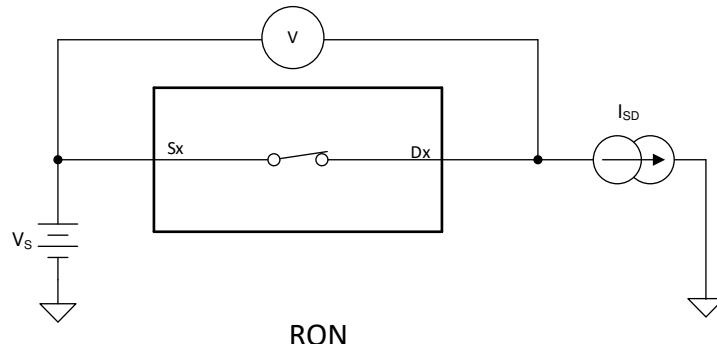

图 6-1. On-Resistance
The on-resistance of a device is the ohmic resistance between the source (Sx) and drain (Dx) pins of the device. The on-resistance varies with input voltage and supply voltage. The symbol  $R_{ON}$  is used to denote on-resistance. 图 6-1 shows the measurement setup used to measure  $R_{ON}$ . Voltage (V) and current ( $I_{SD}$ ) are measured using the following setup, where  $R_{ON}$  is computed as  $R_{ON} = V / I_{SD}$ .